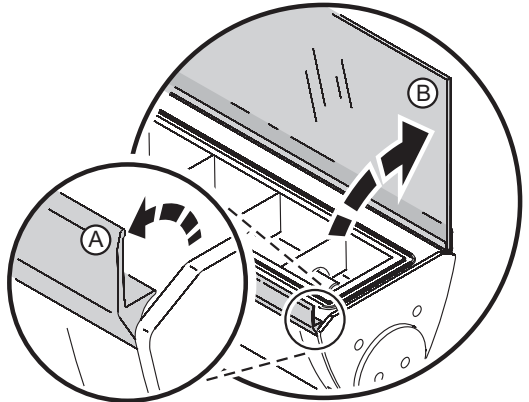

Figure 2: Opening the front cover
3. See Figure 2. Lift the release flap (A) and then lift the hinged front cover (B). If you need to lever the release flap up, use a plastic or wooden object, as a metal object may damage the glass. Avoid damaging seals while you are working.